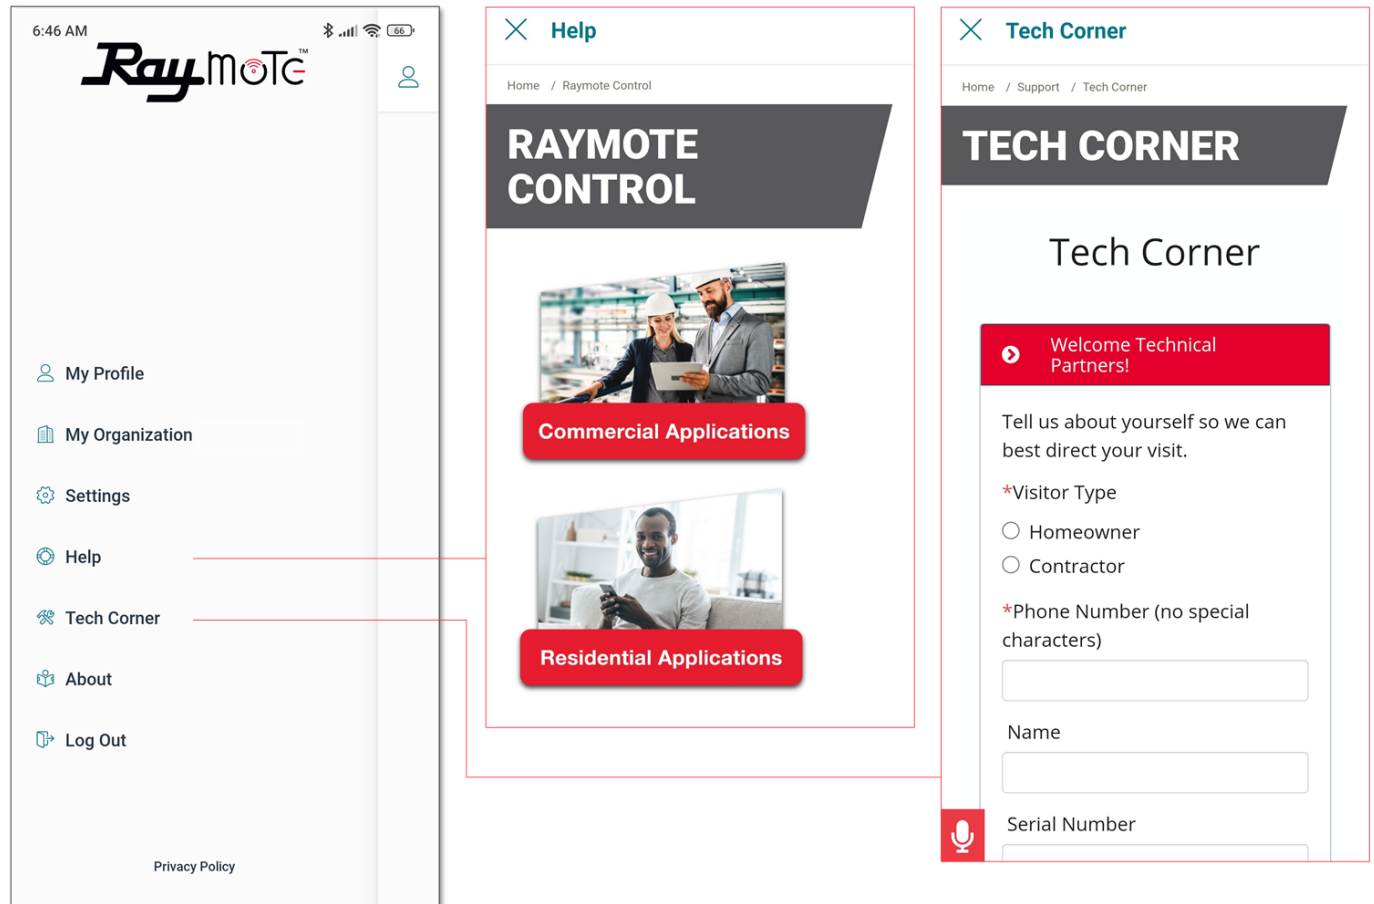

Figure 92. Help and Tech Support
- In-App access to Raypak Tech Corner collection. You can find here detailed instructions for Raypak products and service kits. See **Figure 92**.